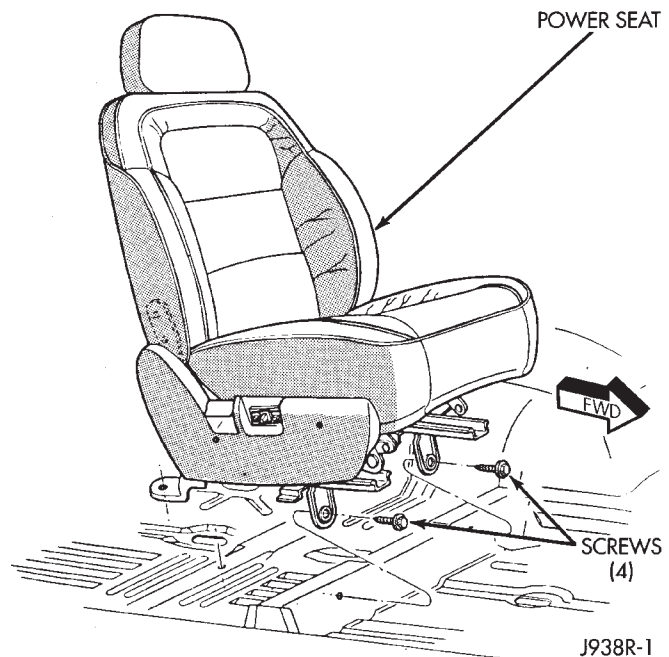

Fig. 4 Power Seat Remove/Install - Typical
(1) Move the seat to the forward-most position, if possible.
(2) On the driver's side only, unplug the seat belt switch wire harness from the inboard seat belt.
(3) Remove the single screw securing each of the two rear seat track covers to the rear of the seat tracks and remove the covers.
(4) Remove the single screw securing the rear of each of the two seat tracks to the floor pan.
(5) Move the seat to the rearward-most position, if possible.
(6) Disconnect and isolate the battery negative cable.
(7) Remove the single screw securing the front of each of the two seat tracks to the floor pan (Fig. 4).